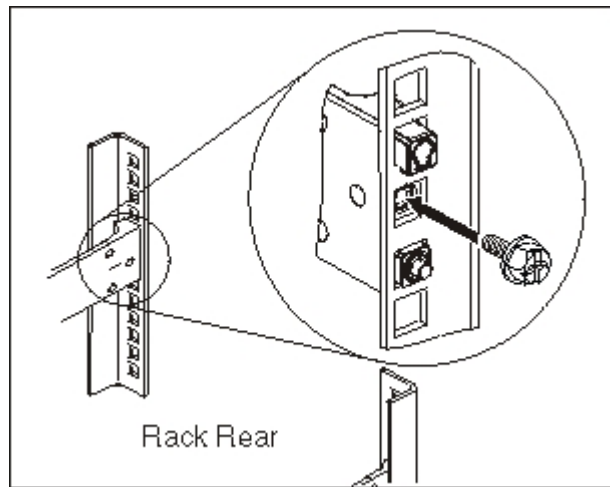

Figure 9. Securing the appliance on slide rails in the rack
4. Secure the appliance slide rails in the rack, as shown in Figure 9: